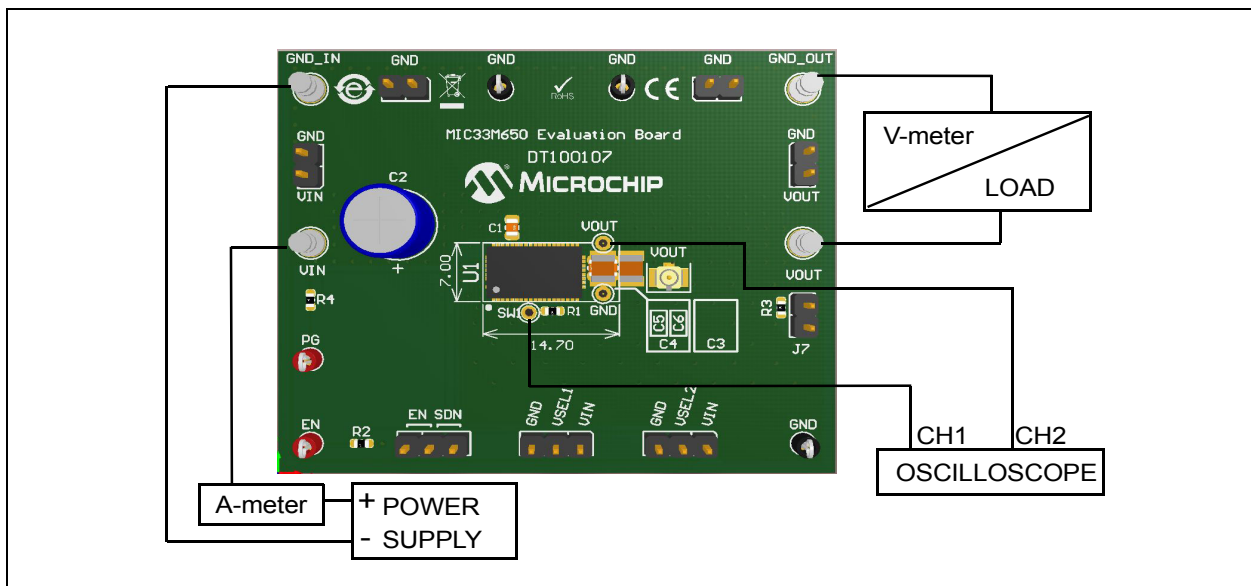

FIGURE 2-2: MIC33M650 Evaluation Board Setup.
1. Connect input supply, Voltmeter, Amperemeter and Load, as shown in Figure 2-2.
3. Fit the enable jumper ("J4") according to Figure 2-2.